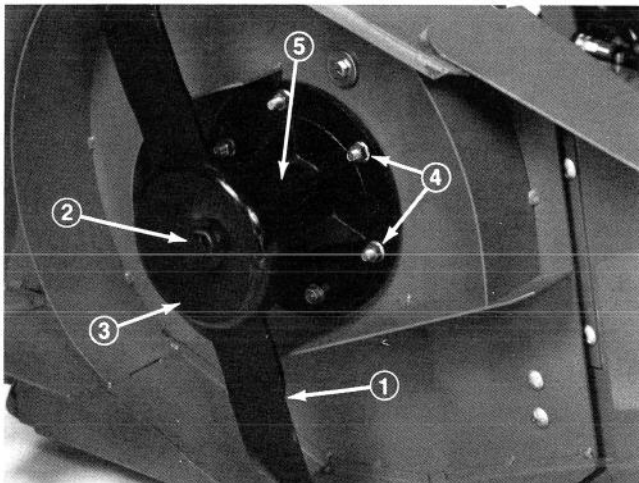

Figure 37
2. Grasp end of blade using rag or thickly padded glove. Remove special screw, washer, antiscalp cup and blade from spindle assembly (Fig. 37).